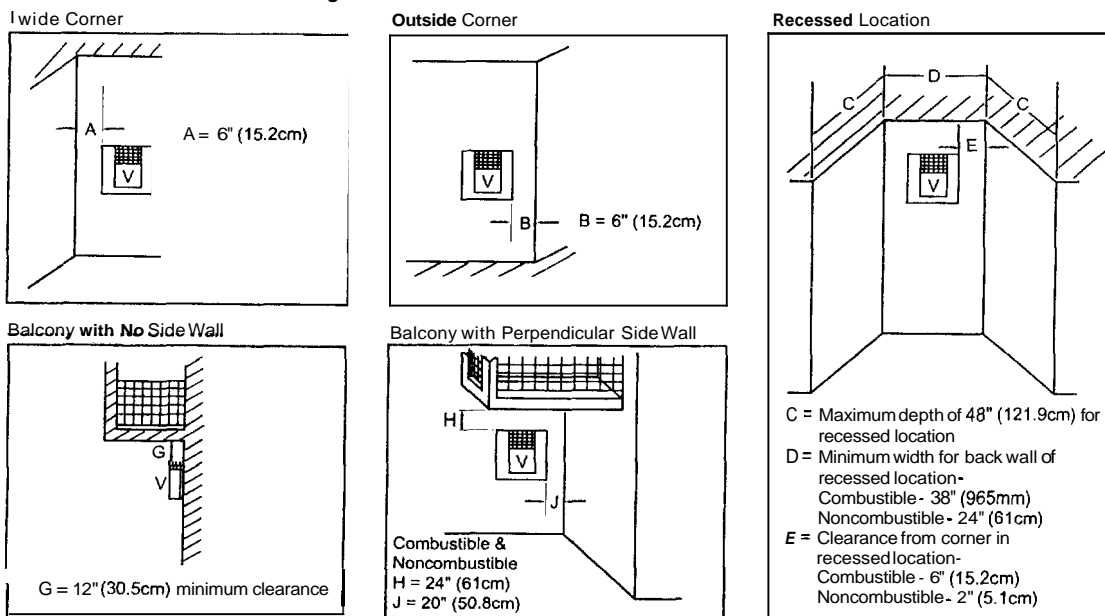

Figure 7- Minimum Clearances for Termination Cap
- When locating termination cap, it is important to observe the minimum clearances shown in Figure 7, page 6.